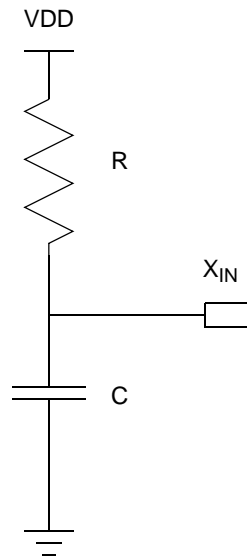

Figure 26. Connecting the On-Chip Oscillator to an External RC Network
Figure 26 displays a recommended configuration for connection with an external resistor-capacitor (RC) network.